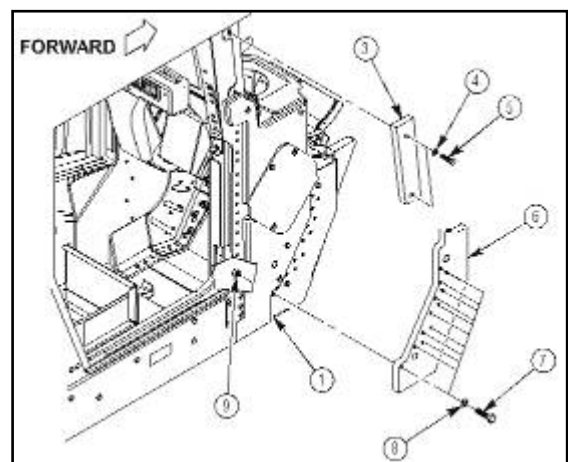

Figure 37b
32. Apply 8030-01-025-1692 sealing compound to threads of two 4397000-068 capscrews (5). Refer to figure 37b.
33. Install 6435017-01M1 or 6435017-200M1 front door header panel IED overlay (3) on vehicle body (1) with two 4397000-068 capscrews (5) and 4397005-015 washers (4) as shown in figure 37b. Tighten capscrews (5) to 23 lb-ft (31.2 N·m).
34. Install 6435224-01M1 or 6435224-200M1 right A-pillar underbody overlay (6) on vehicle body (1). Push forward towards front of vehicle and secure with twelve 4397000-069 capscrews (7), 4397005-014 washers (8), and 4397064-005 locknuts
(9) as shown in figure 37b. Tighten locknuts (9) to 37 lb-ft (50.2 N·m).